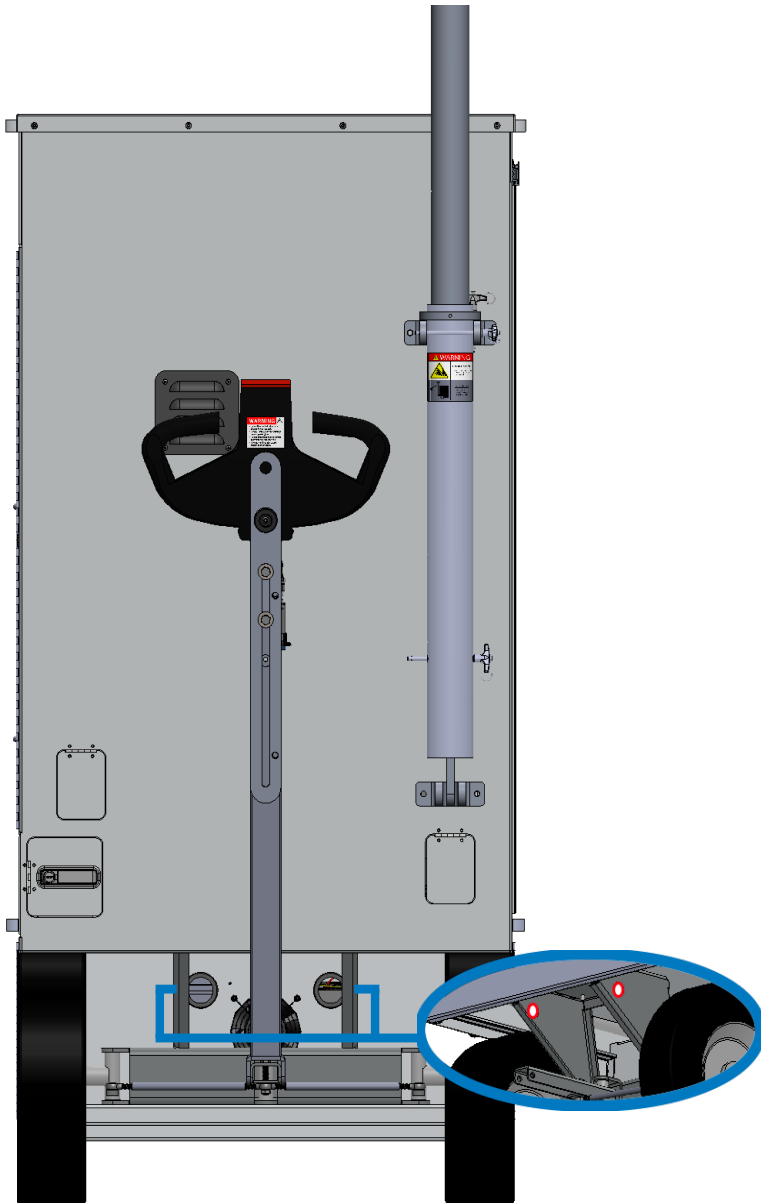
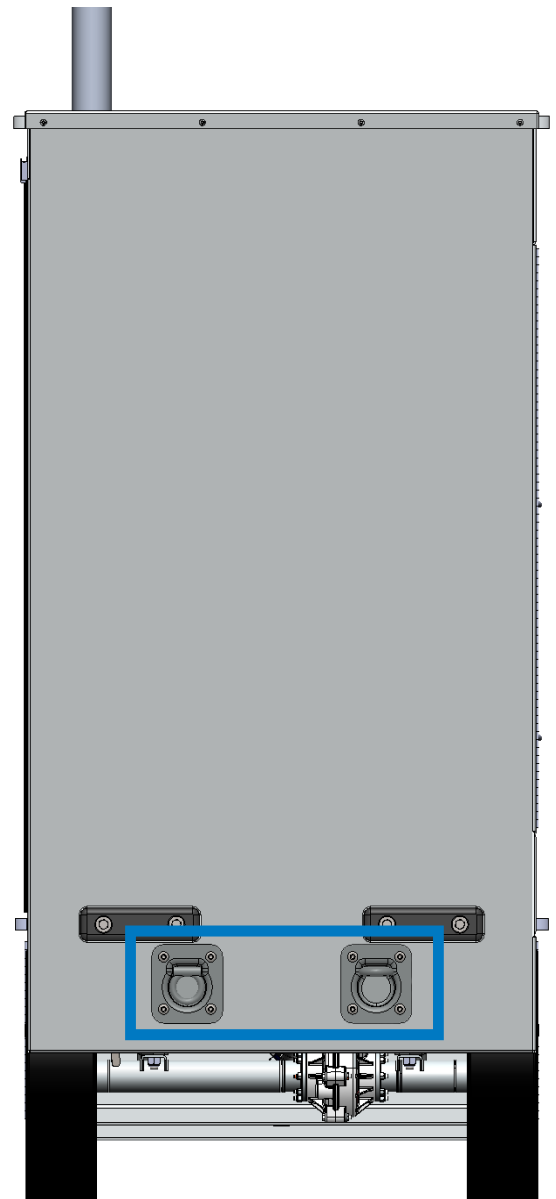

Figure 2: Sideline Cart Left Side Tie Down Points
Figure 3: Sideline Cart Right Side Tie Down Points
- » Secure the cart in your truck using the tie-down points indicated in Figure 2 and Figure 3 below.
- » CoachComm recommends tying down with four (4) cargo straps rated for at least 5000 lbs.